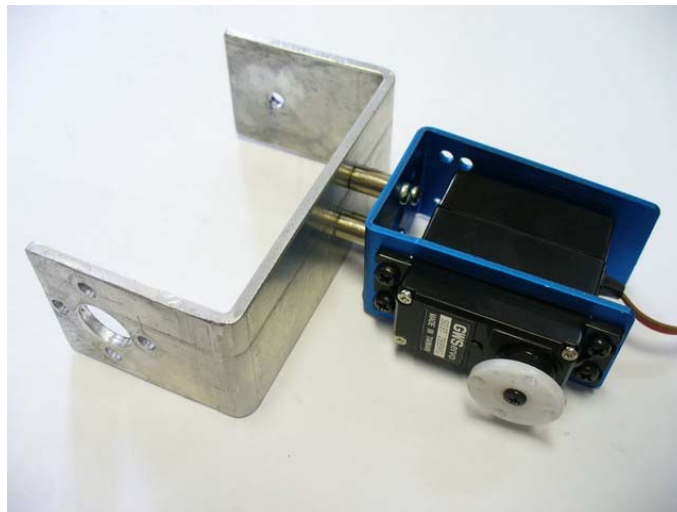

Figure 10 The servo motor #3 is attached to the connect R-joint servo.
8. Connect 2 new pieces of R-joint servo with four 10-mm PCB stands (Item 6) as shown in Figure 10. Note that the U-Shape part is the small sized R-joint servo (Item 3 - from ETT), and the C-shape part is the large sized R-joint servo (Item 12 - homemade). Put in a brass boot, and then attach the servo motor #3 (Item 1) to the U-shape of the R-joint servo.